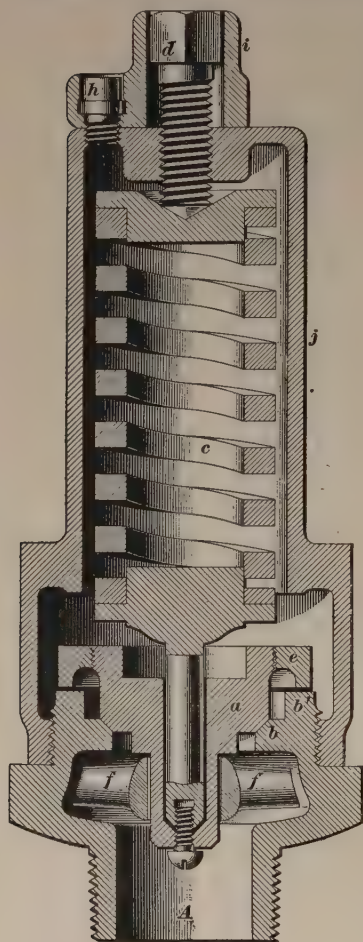

FIG. 13
19. Relief Valve.—The relief valve *v* is shown in section in Fig. 13. It is used for the purpose of relieving the train pipe and also to warn the engineer if the pressure in the train becomes greater than intended. It is usually set at 50 pounds.